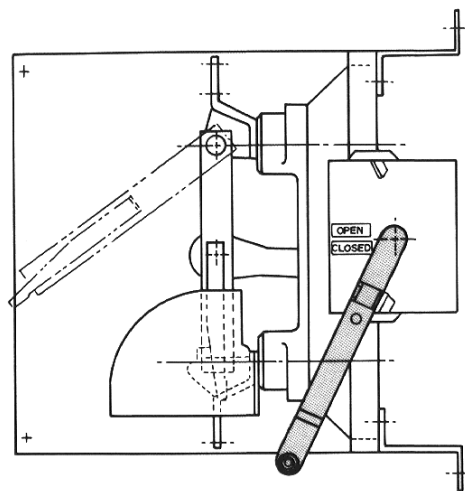

Fig. 15 Handle "DOWN" in switch closed position.
The component parts for this type arrangement are shown in Fig. 15. The arrangement of parts is essentially the same as for type VII, except the handle is on the right.
- a. Mount the frame-mounted switch (Fig. 15) in the enclosure. Check to be sure the 2-1/4" dimension from frame mounting holes to outside of enclosure (per Dwg. 424-015) has been maintained.
- d. Move handle to the DOWN or closed position, as shown in Fig. 15 and engage hub and key of handle with shaft extension and keyway of stored-energy device.